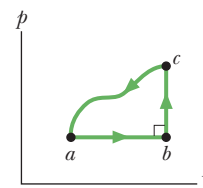

Figure 18-51 Problem 69.
**69** Figure 18-51 displays a closed cycle for a gas. The change in internal energy along path  $ca$  is  $-160\text{ J}$ . The energy transferred to the gas as heat is  $200\text{ J}$  along path  $ab$ , and  $40\text{ J}$  along path  $bc$ . How much work is done by the gas along (a) path  $abc$  and (b) path  $ab$ ?